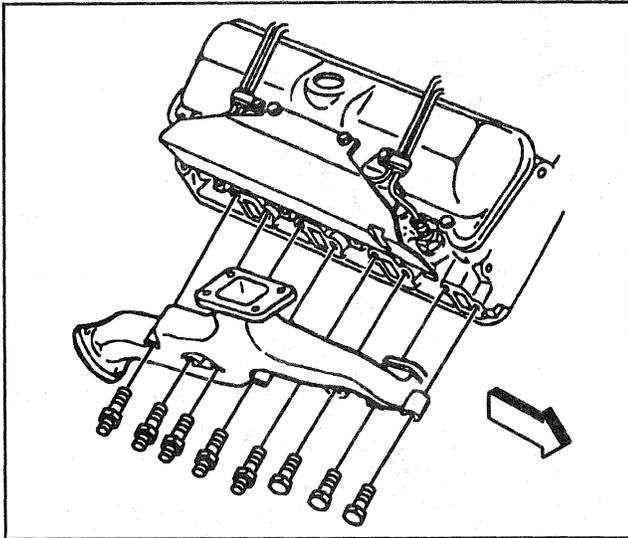

Figure 10—Exhaust Manifold and Heat Shield
12. Turbocharger assembly and exhaust manifold (Figures 10 and 11).
↔ Install or Connect (Figures 10 through 13)
1. Turbocharger assembly and the exhaust manifold (Figures 10 and 11).